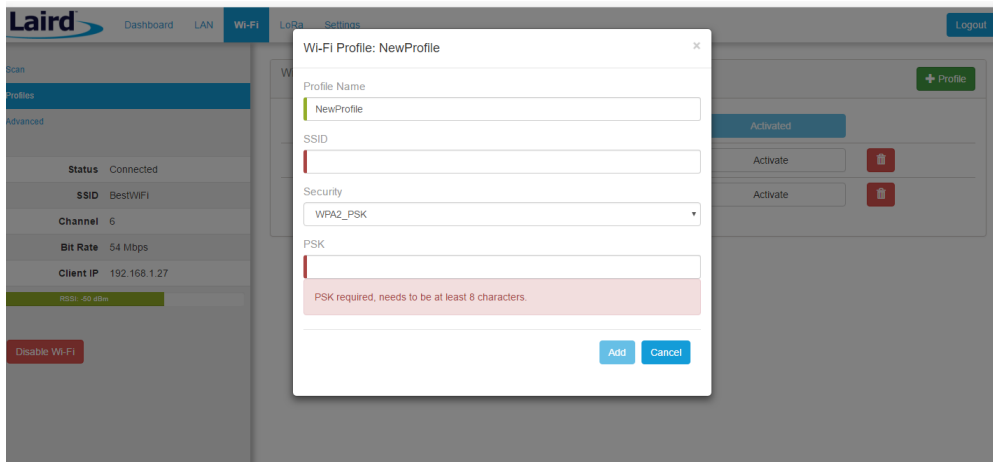

Figure 17: Wi-Fi profile dialog
- Click **+ Profile** to display the Wi-Fi profile dialog (Figure 17).